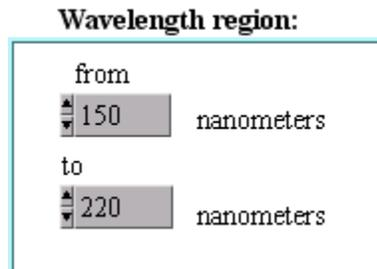

Fig 4.2: Standard limits of the Wavelength region.
4.4.1- Wavelength region: This setting allows the configuration of the scanning range of the monochromator expressed in nanometers. The lower and upper standard limits are reported below and can be changed, as shown in figure 4.2.